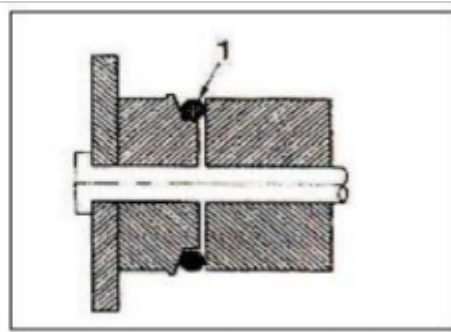

Fig 4-47
5. Roll the 0-ring 1 into the 0-ring groove (see Figure 4-47)